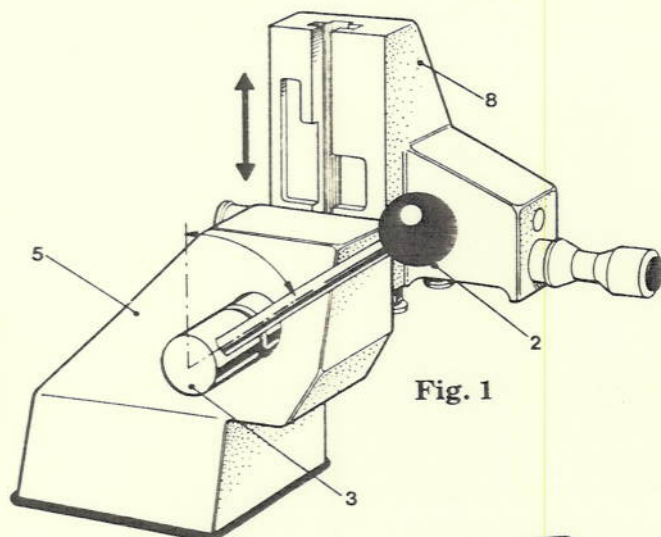

Fig. 1
Remove the Clamping Head by lifting it straight up (see Figure 1). Note the 45° position of lever 2.
Replace the Clamping Head 8 (see Figure 1). Note that the position of lever 2 should also be about 45° from the vertical when replacing the Clamping Head on Bracket 5.
1. Remove the Clamping Head (8) as follows:
- a) Set the lever (2) at an angle of about 45°, as shown in Figure 1.
3. Press the shaft (3) (see Figure 1) to the right with your left hand and at the same time push Clamping Head (8) down into the bracket (5) with your right hand.